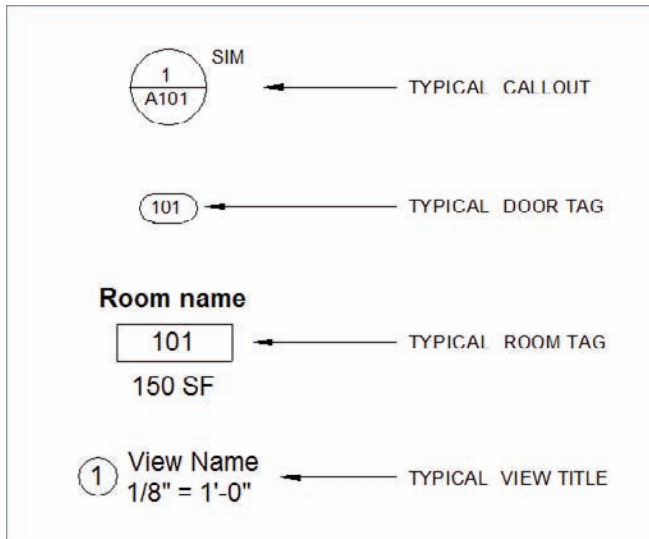

FIGURE 11.50 Adding descriptive text
- Add the following notes to the rest of the symbols (see Figure 11.50):